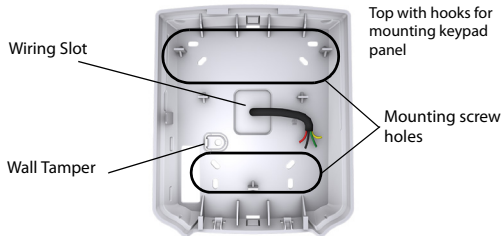

Figure 2: Backplate
2. Mount the backplate to the wall by securing a M3.5 (#6) screw in each of the dedicated mounting holes and tamper hole. Ensure that the top is up, as shown in figure 2.